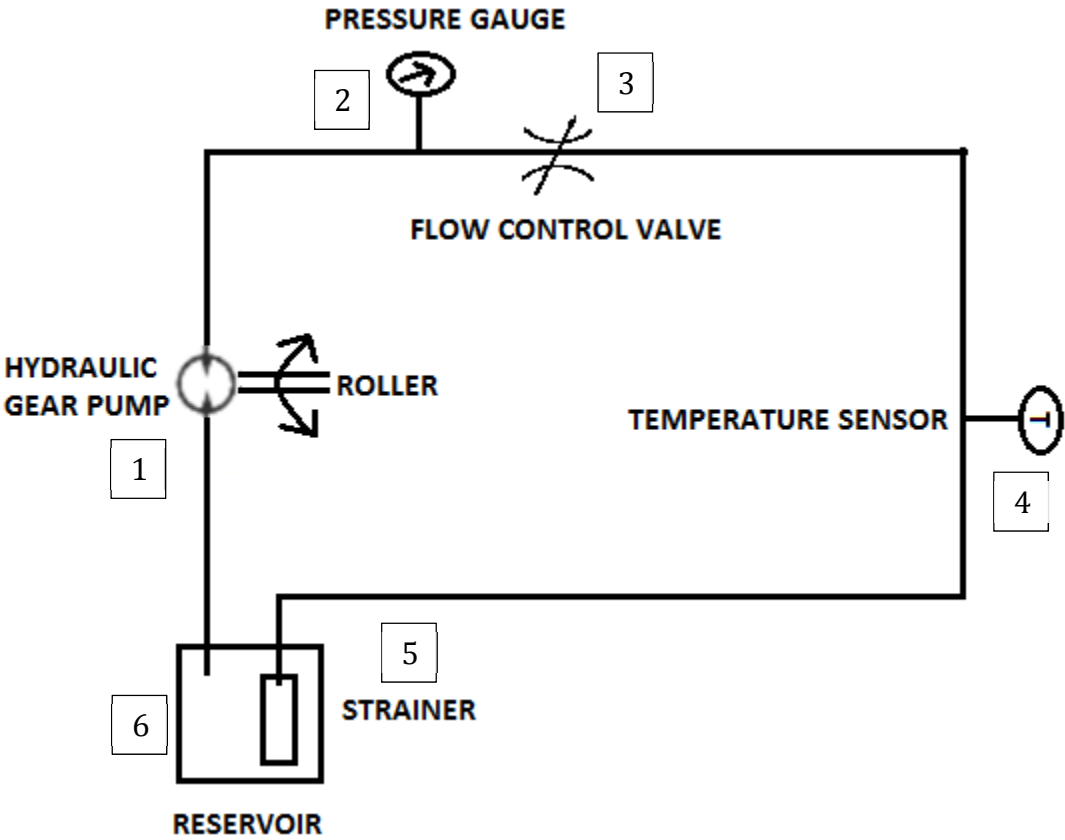

Figure 16: Generic hydraulic system that will simulate road conditions.
One of the subsystems of the chassis dynamometer is the loading subsystem that will simulate normal road conditions by providing a load to the vehicle's wheel. A generic hydraulic system was developed to show how the loading system would operate. **Figure 16** shows the integration of all hydraulic components into a hydraulic circuit. The hydraulic circuit consists of a hydraulic gear pump (1), a pressure gauge (2), a flow control valve (3), a temperature sensor (4), a strainer (5), and a reservoir (6).